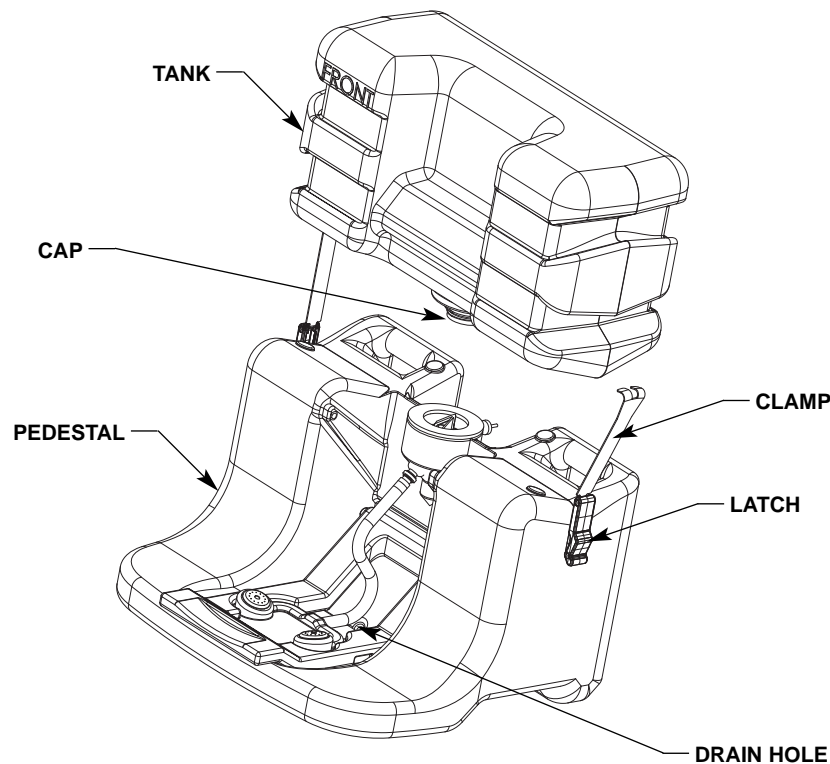

Figure 2b
- OPTIONAL HEATER JACKET:** Place the pedestal into the heater jacket. For ease of tank installation, loosen the jacket around the pedestal. Insert the tube from the drain hole at the bottom of the pedestal through the hole in the back of the heater jacket. Drain hole location is shown in Figure 2b on page 5.
- Invert the tank and place it on top of the pedestal as shown in Figure 2b found on page 5. A slight adjustment to the position of the tank may be required for proper placement of the tank on the pedestal. The pierce on the pedestal will puncture a hole in the cap liner and allow solution to flow.
- Secure the tank to the pedestal using the side tank clamps. Make sure the latches are pulled down tight to the pedestal (see Figure 2b, page 5).
1. Carefully remove the eye wash tank from the pedestal and drain the water solution from the tank (dispose of the solution properly). For ease of draining, the pedestal has a drain hole which will accept a 1/2" I.D. tube at the underside of the hole (tube supplied by others) (see Figure 2b on page 5 for drain hole location).